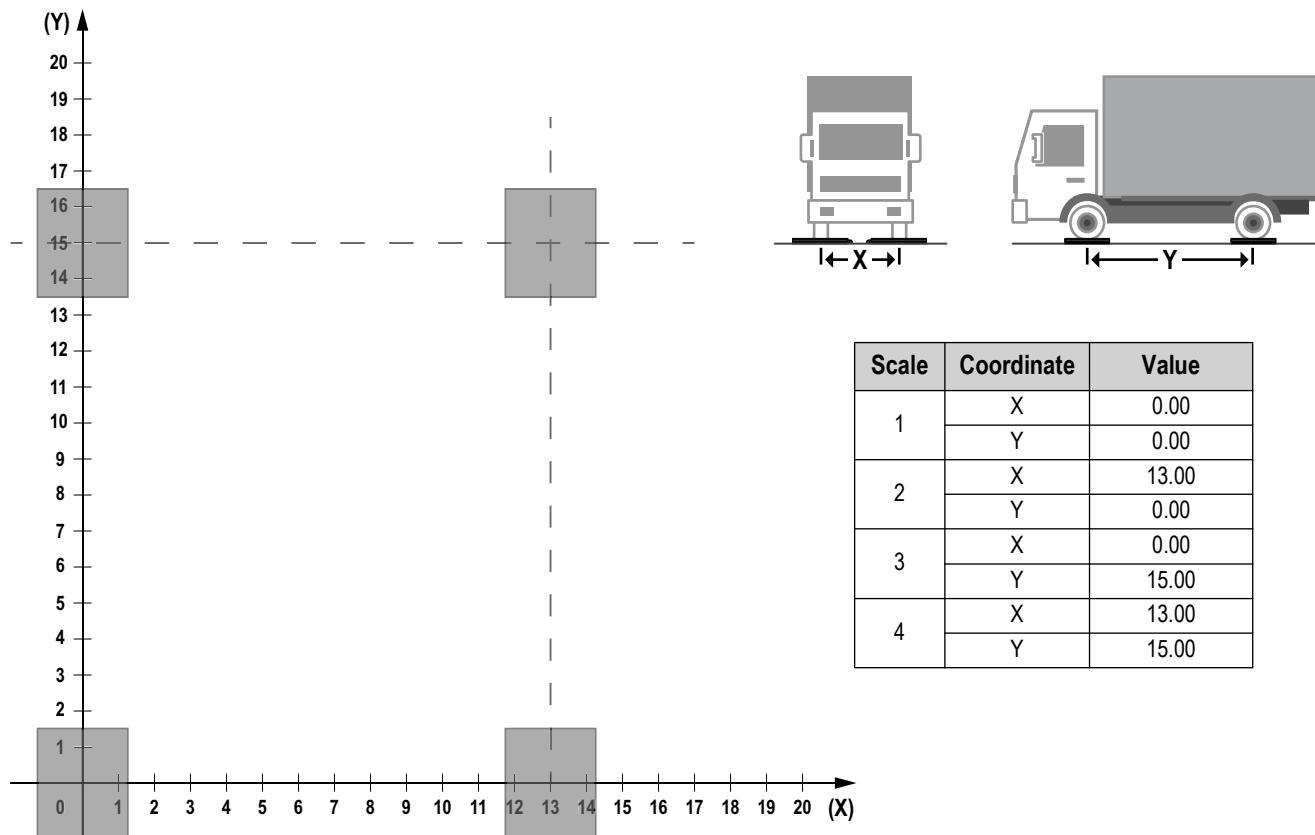

Figure 4-2. Center of Gravity Graph
3. Input the vehicle measurements. Refer to Figure 4-2 for how to specify the coordinates.